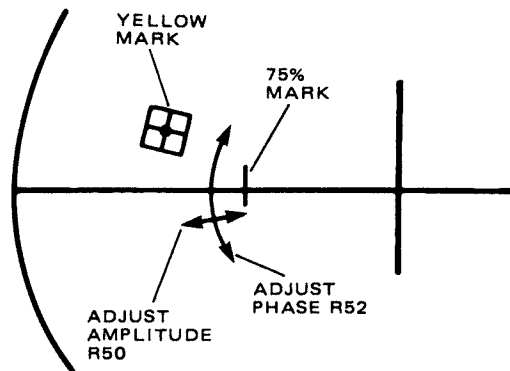

Figure 5-19. Burst Phase and Amplitude Adjustment
STEP 1 Adjust R52 (BURST Φ) on Encoder 2 PWA until burst phase aligns with B-Y axis and all vectors remain in their boxes (Figure 5-19).
STEP 2 Adjust R50 (BURST AMPL) on Encoder 2 PWA so that burst dot falls on the 75% mark on the B-Y axis (Figure 5-19).